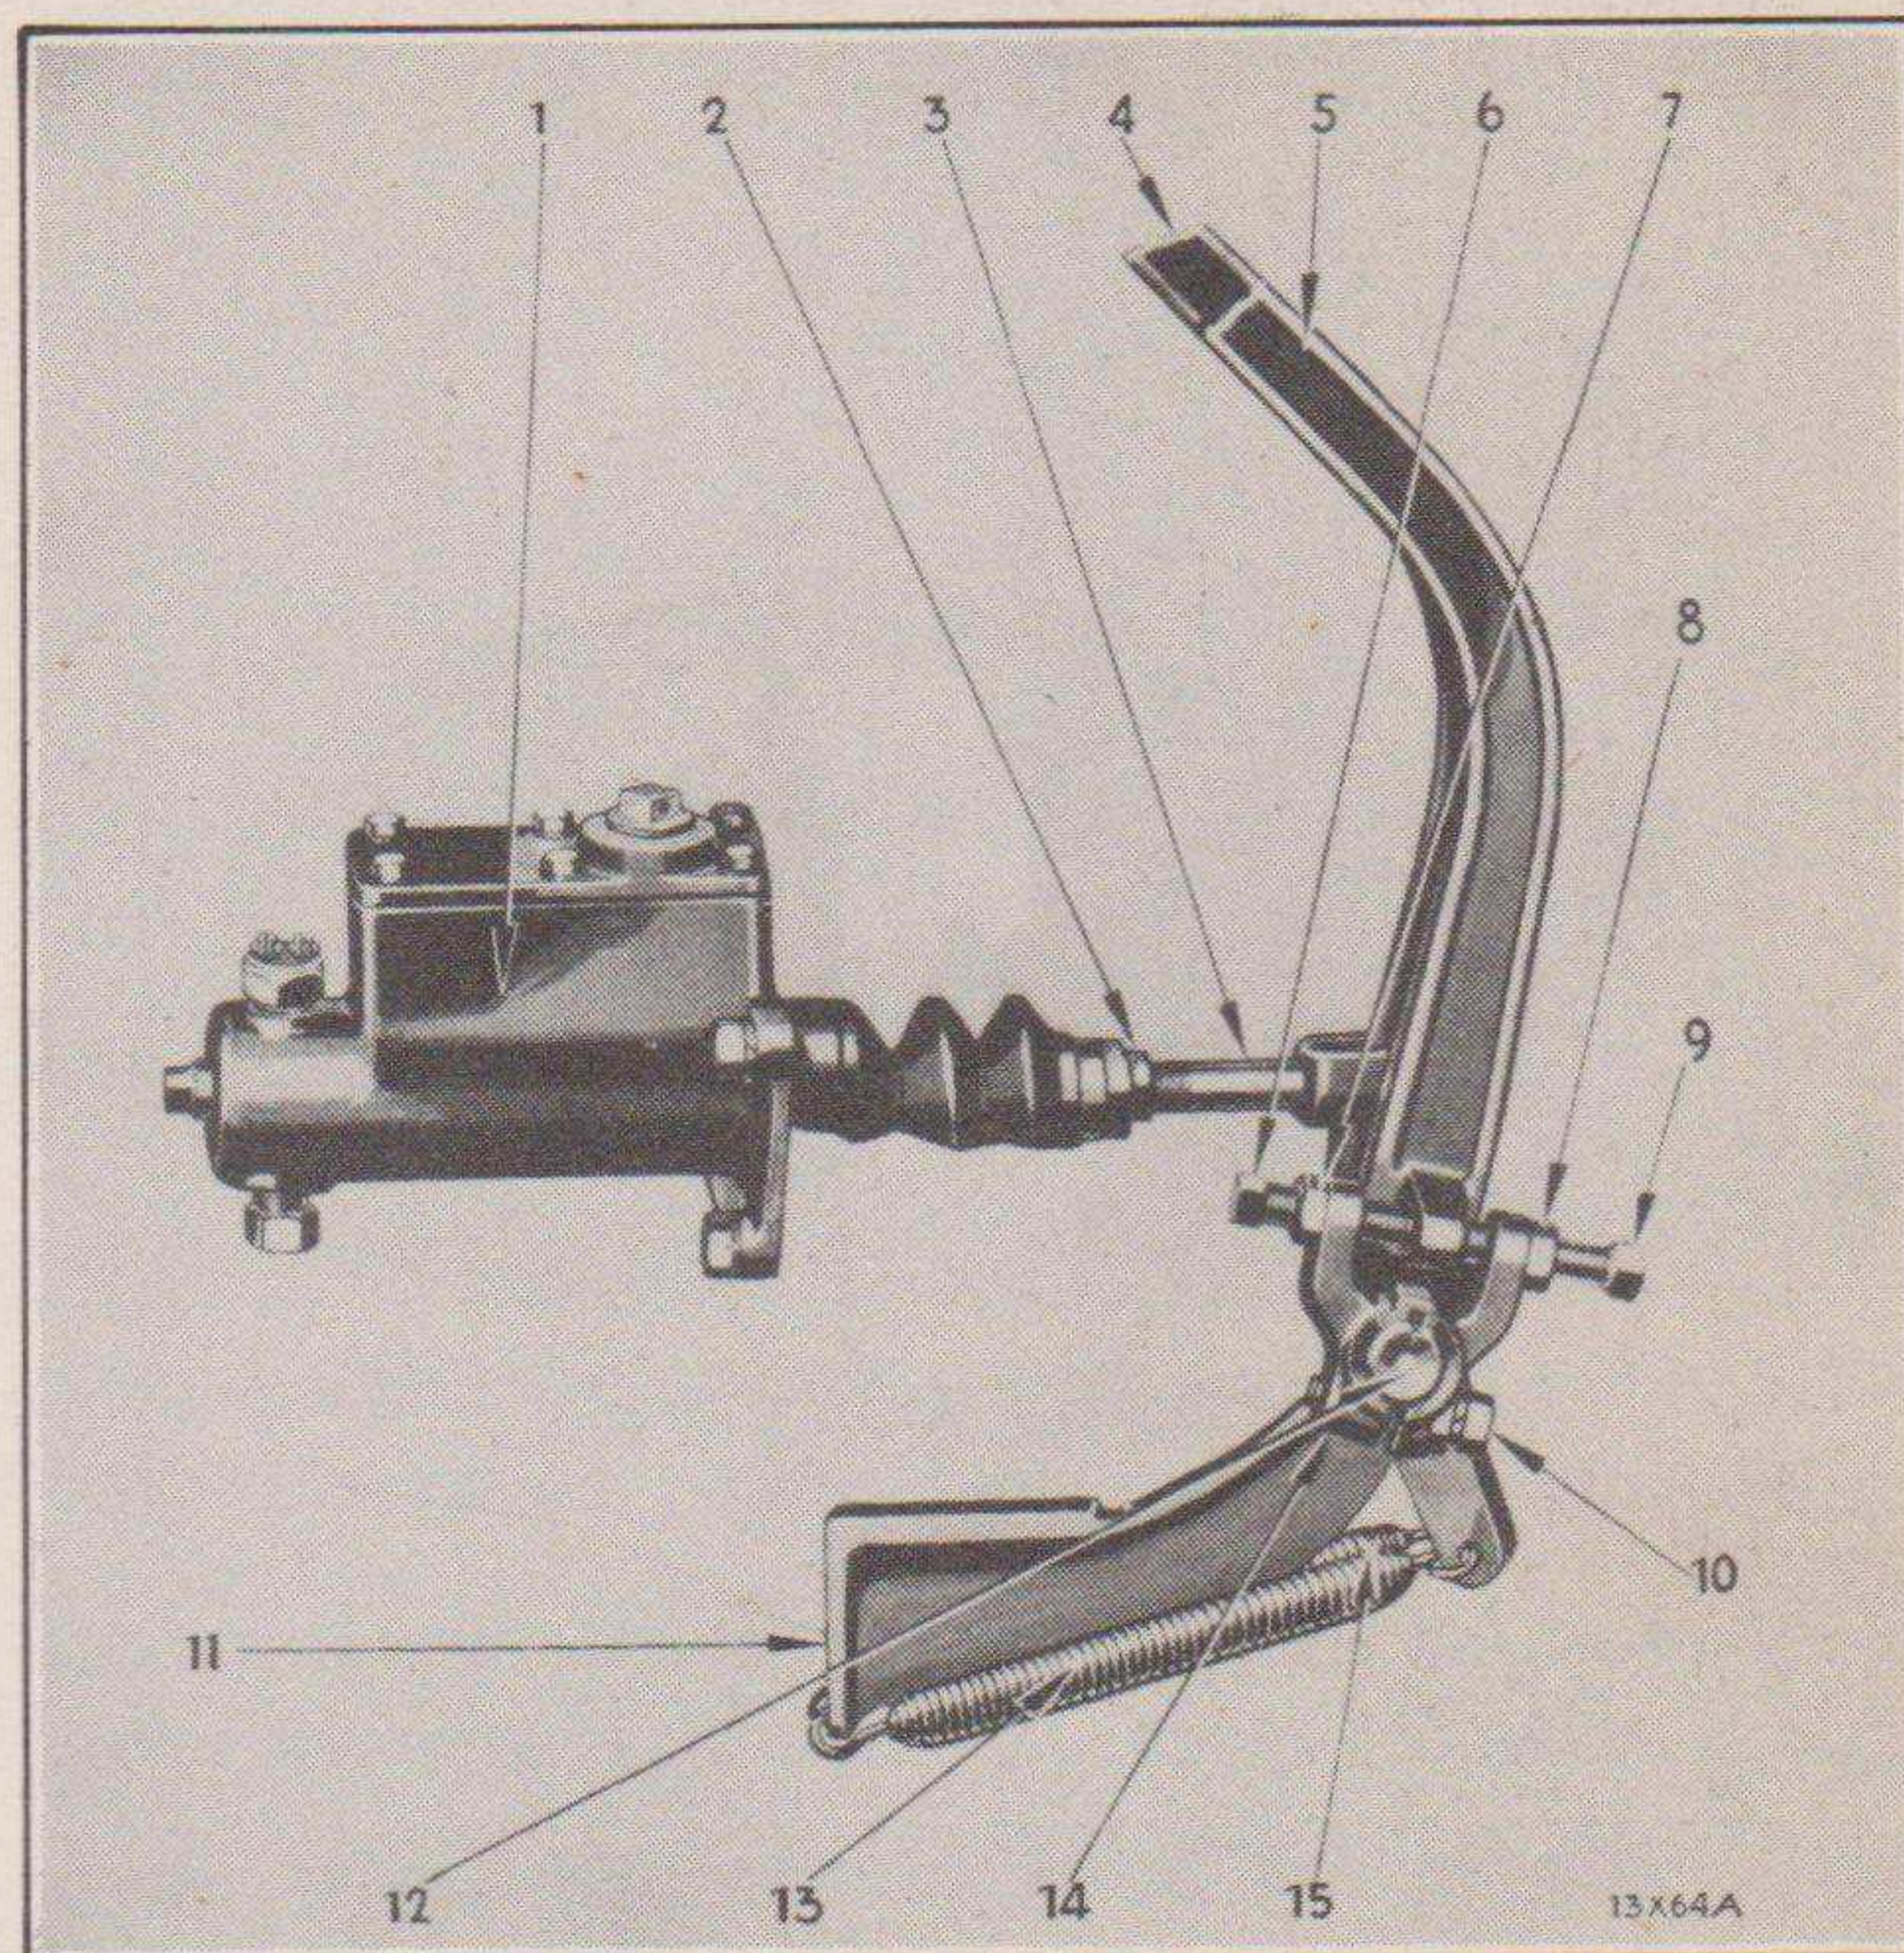
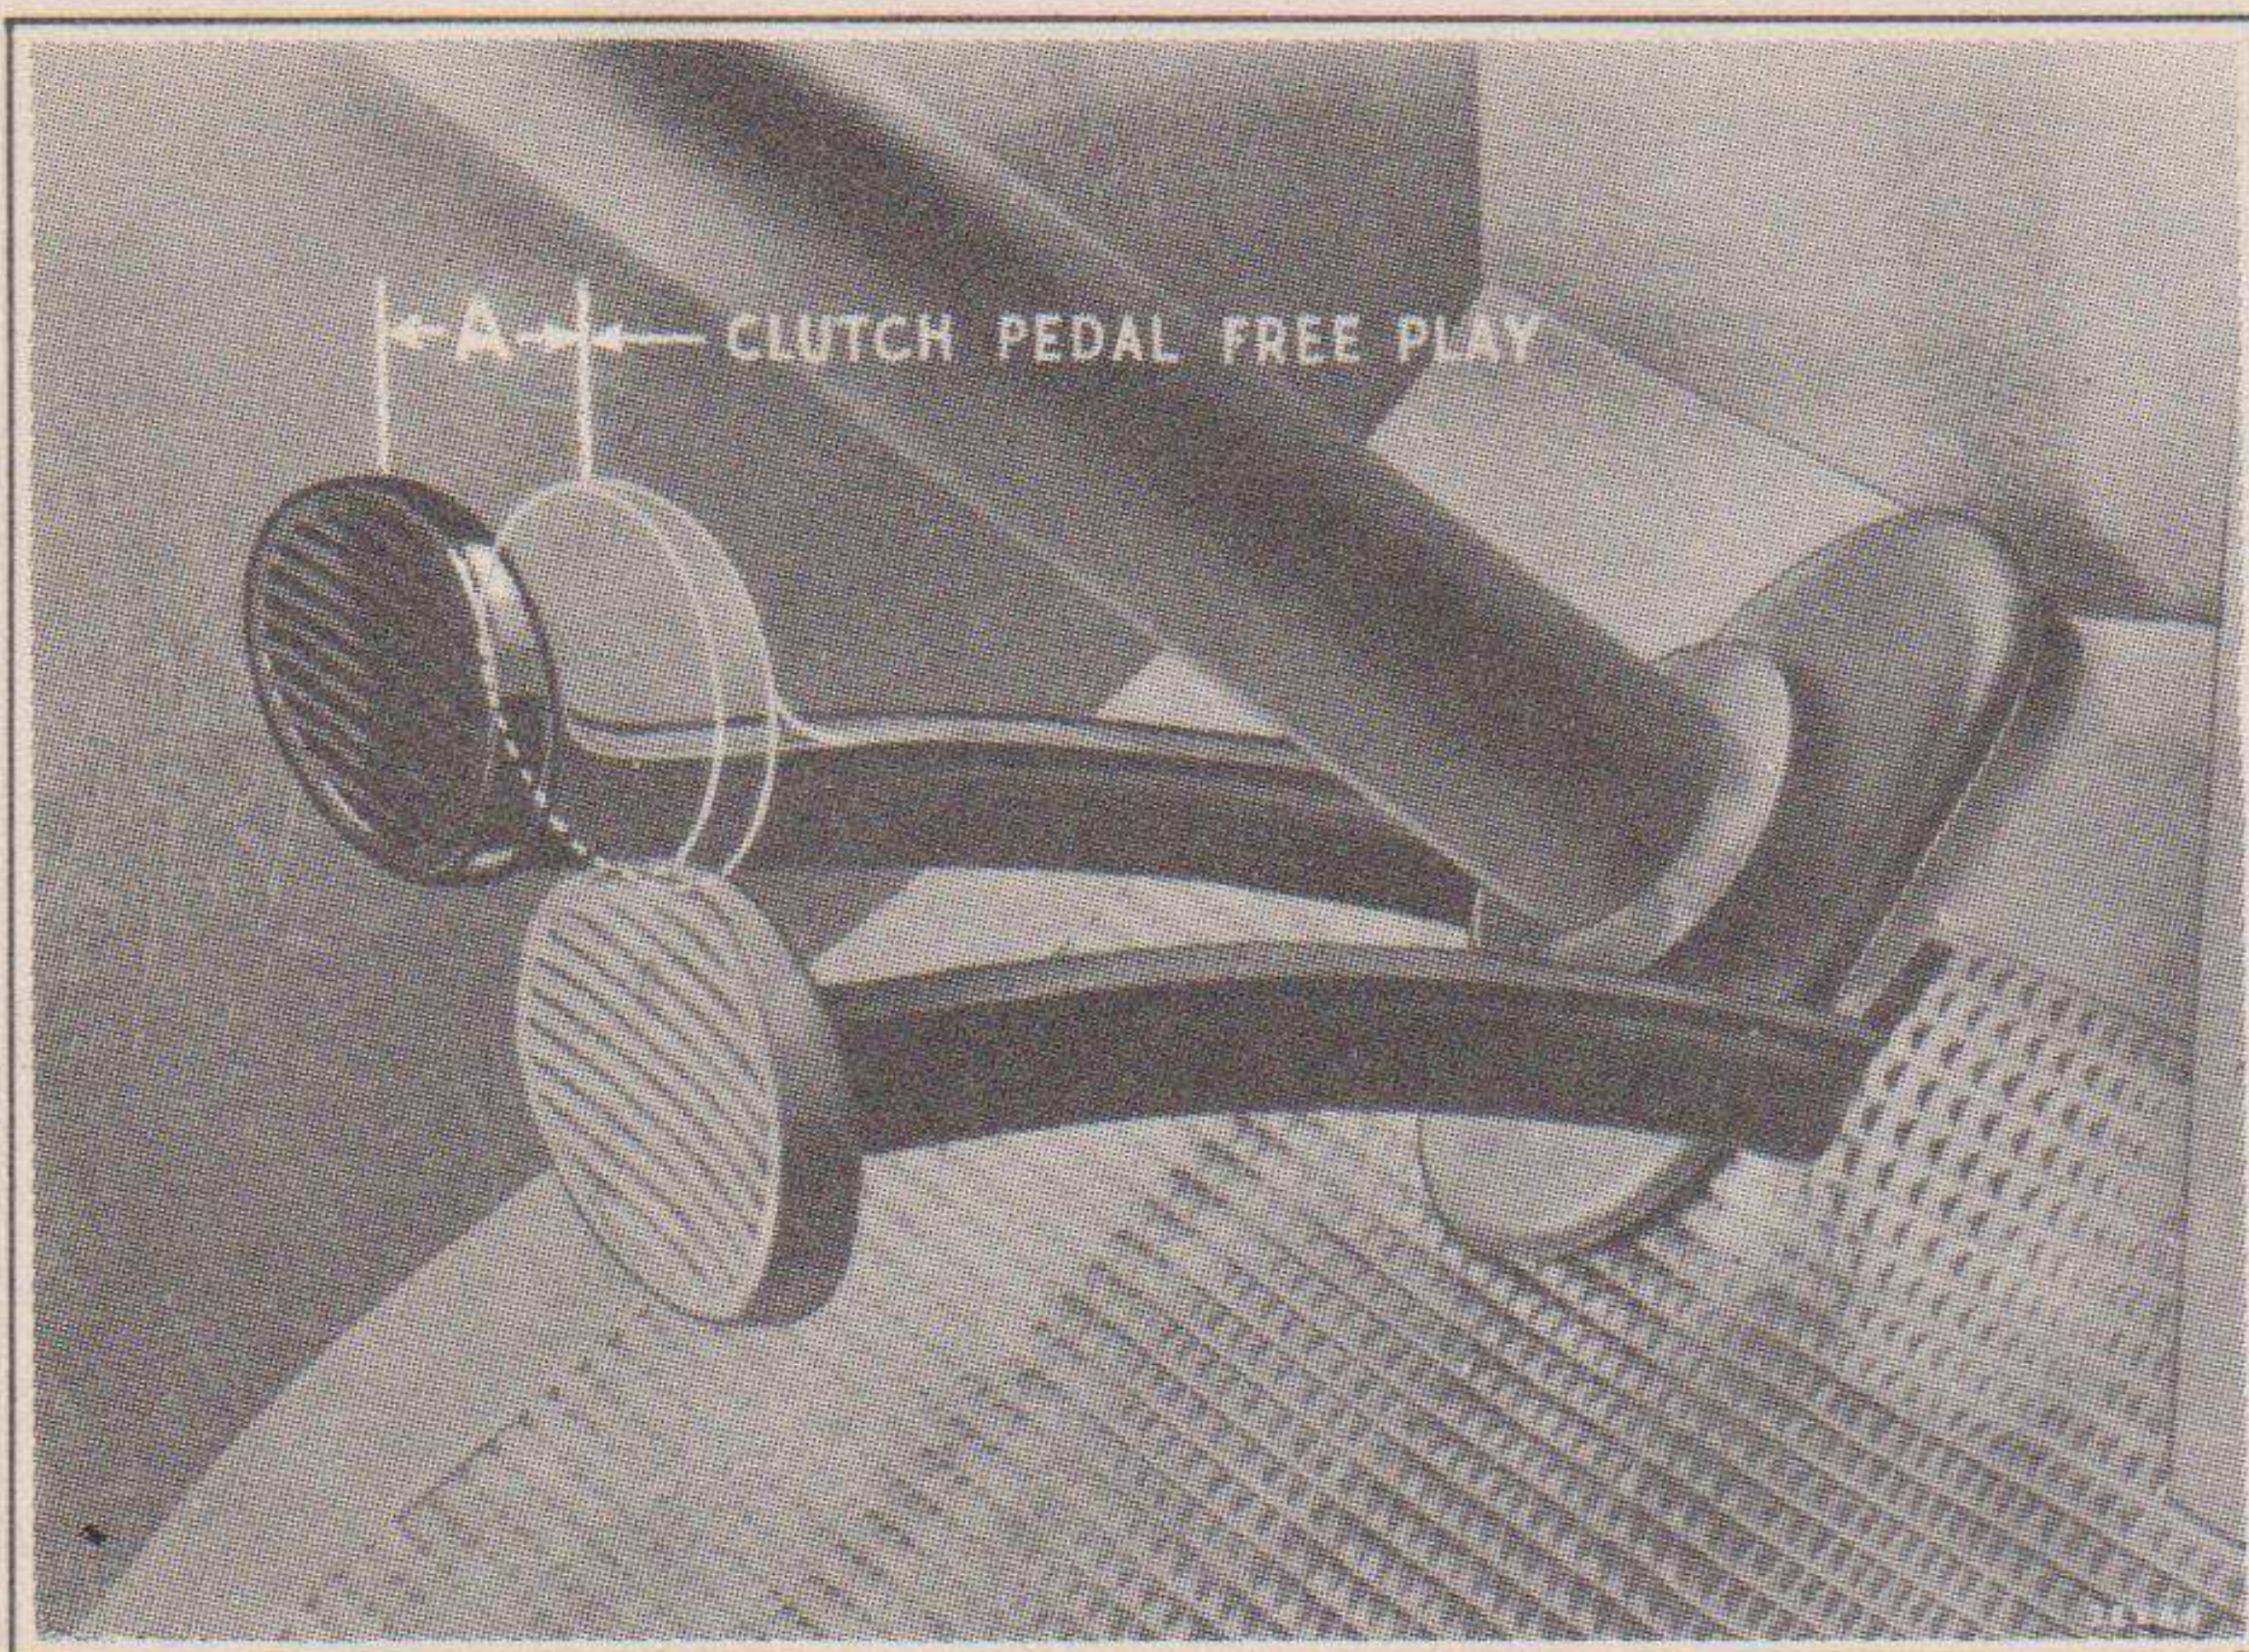

Fig. 94—Pedal Adjustments
Fig. 95—Clutch Pedal Free Play
- (a) Loosen the clutch pedal adjusting collar set screw lock nuts (7 and 8, Fig. 94).
- (b) Turn the clutch pedal adjusting collar set screws (6 and 9, Fig. 94) until the pedal has  $1\frac{1}{8}$ " free play. See Fig. 95.